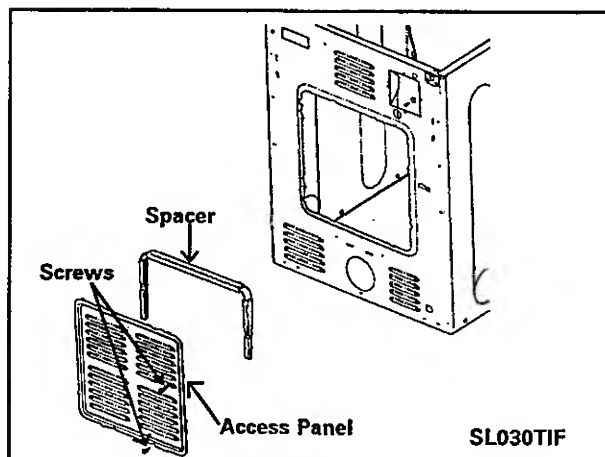

Figure 5-15
1. Remove the four hex-head screws surrounding the access panel (*Figure 5-15*).